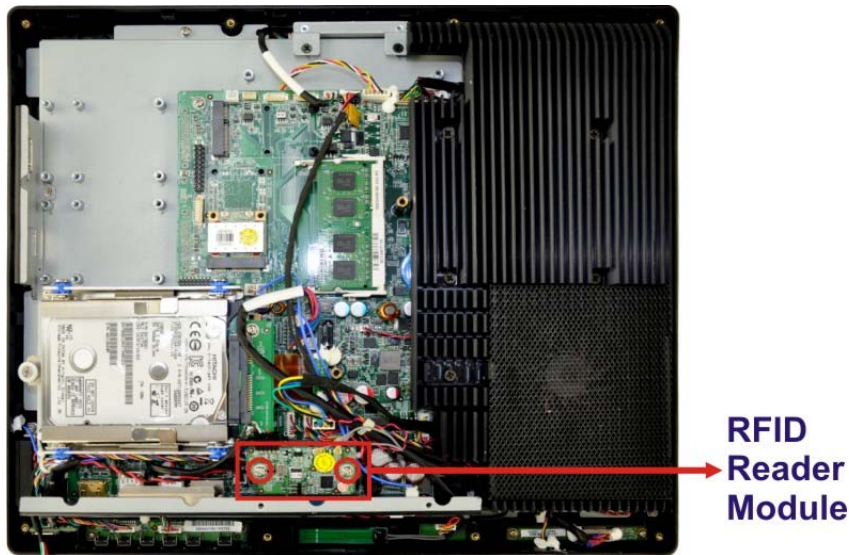

Figure 3-9: RFID Reader Module Installation
Step 3: Install the RFID reader module in the location shown in **Figure 3-9** by two retention screws.